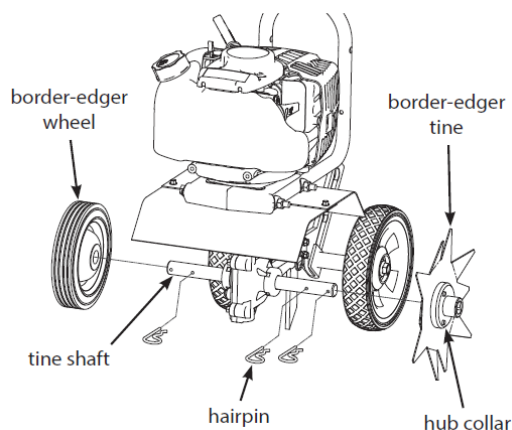

Figure 15
2. Remove the hairpins from both sides of the tine shaft (**Figure 15**).